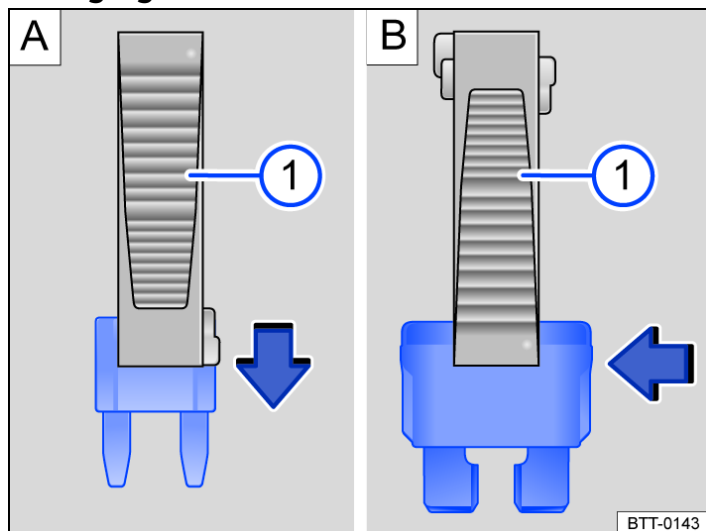

Fig. 2 Removing or inserting fuse with plastic grippers ① (illustration).
1. If applicable, take the plastic grippers out of the fuse box or the cover of the fuse box → Fig. 2 ①.
2. Push the plastic grippers clip suitable for the fuse design onto the fuse from the top or the side → Fig. 2.